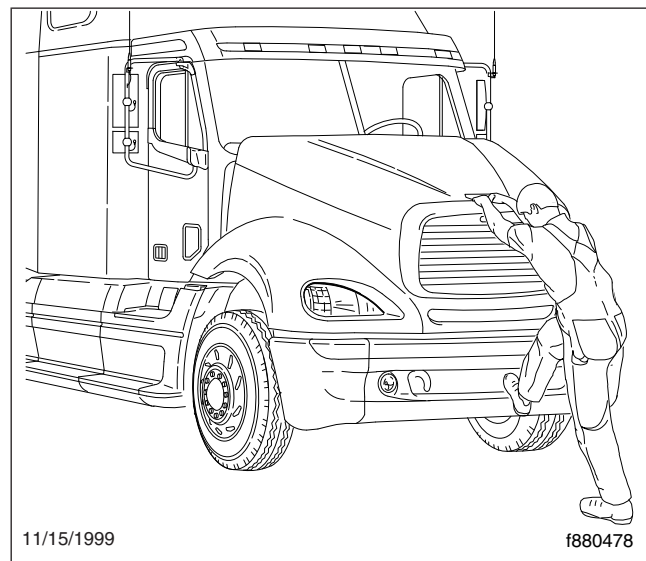

Fig. 3.7, Hood Tilting
3. Using the bumper step and grab handle, slowly tilt the hood until the straps support it. See **Fig. 3.7**.